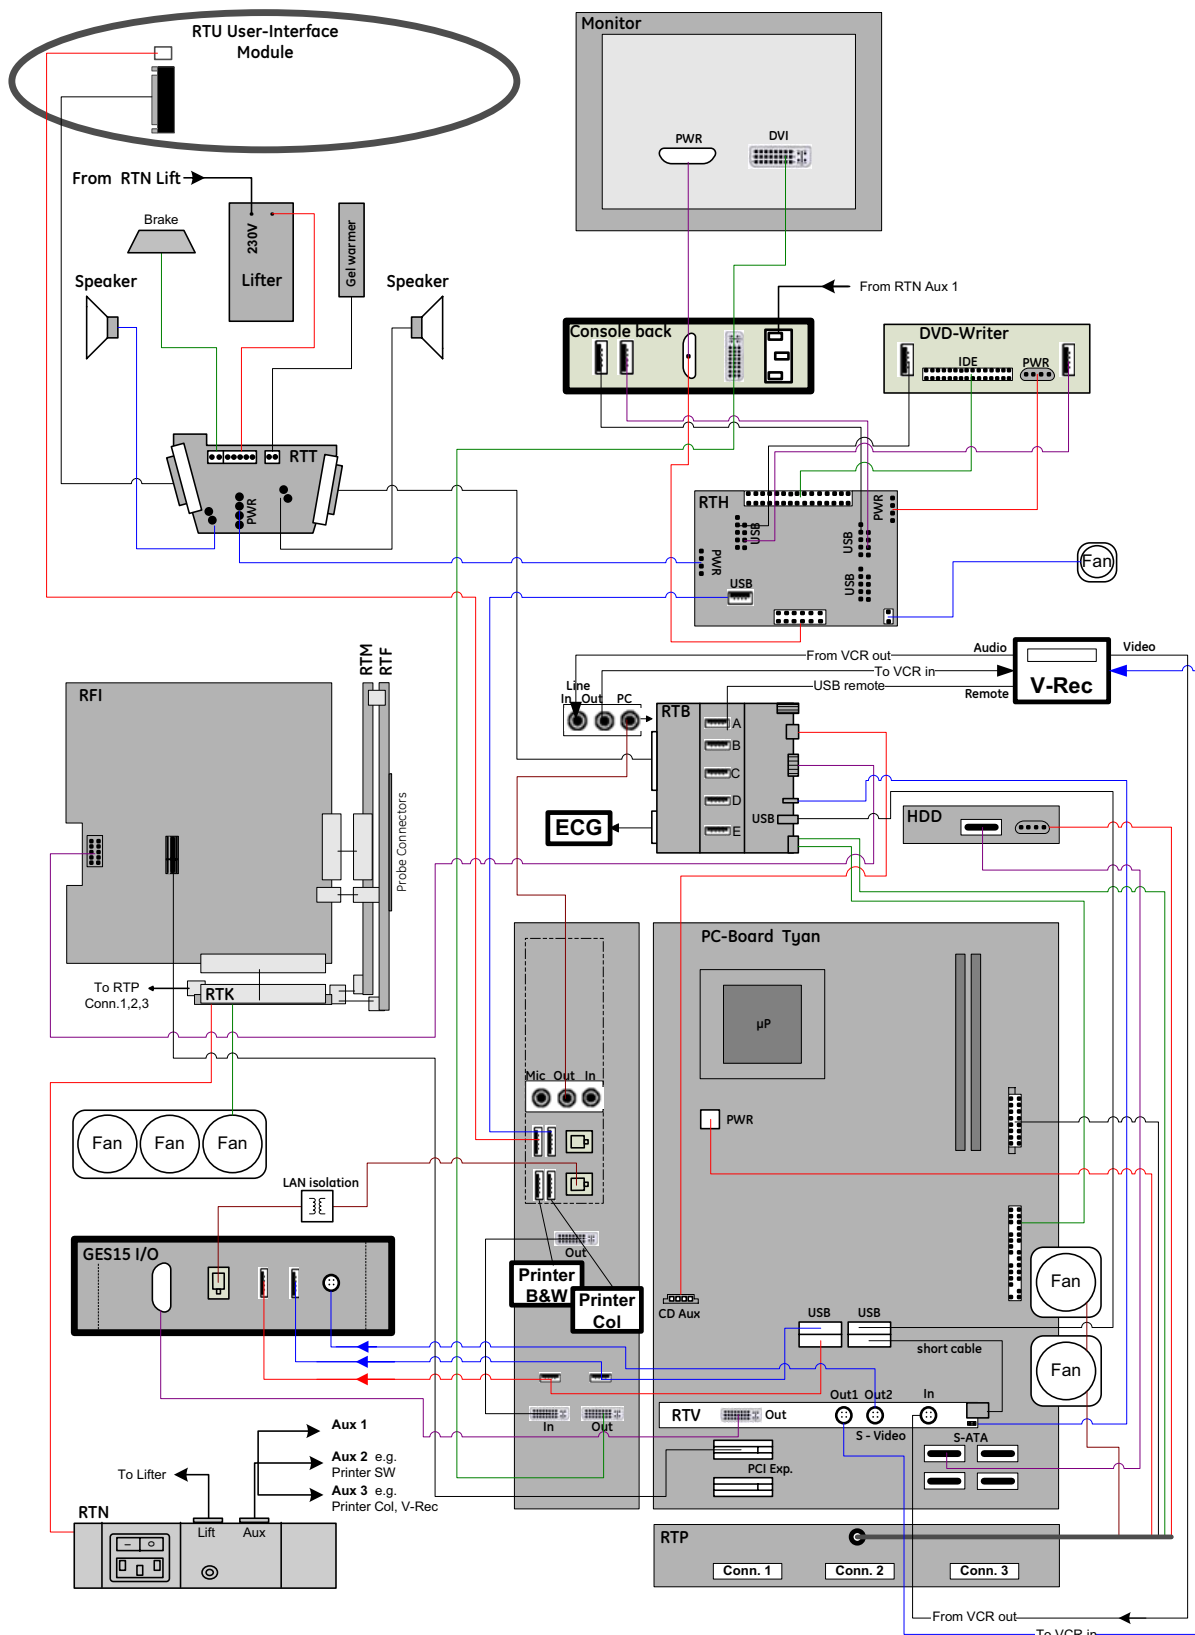

Figure 5-18 Internal I/O - BT06: TYAN PC-Motherboard with new HW components (GES15, RTT3, RTH4 and RTB4) installed
- “**Tyan**” PC-Motherboard with **new HW** components (GES15, RTT3, RTH4, RTB4) is installed, see: Figure 5-18 on page 5-38.